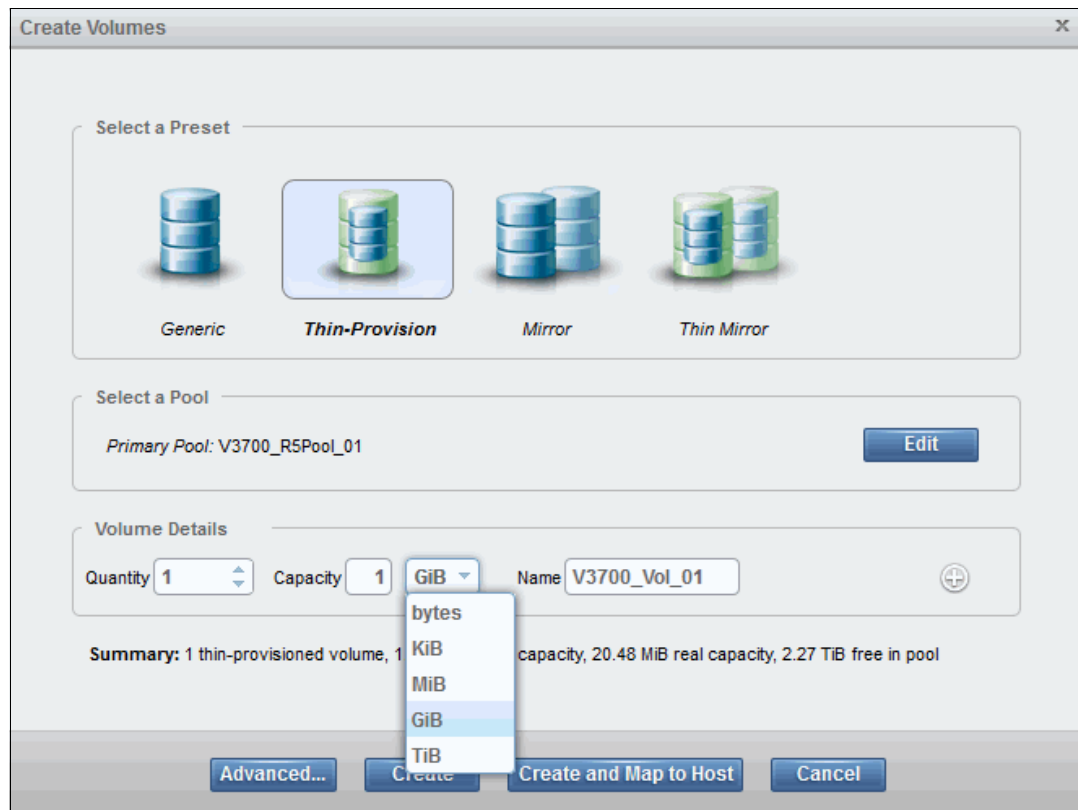

Figure 3-73 Create Volumes pane
1. Click **Create Volumes** to open the Create Volumes pane, as shown in Figure 3-73.